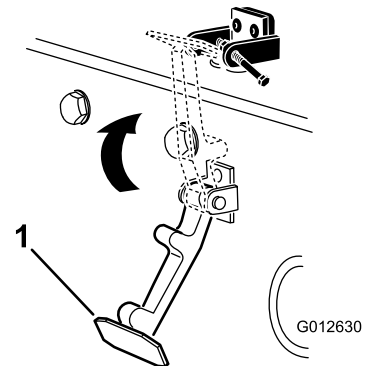

Figure 7
6. Hook the latch onto the hood latch bracket (Figure 7).